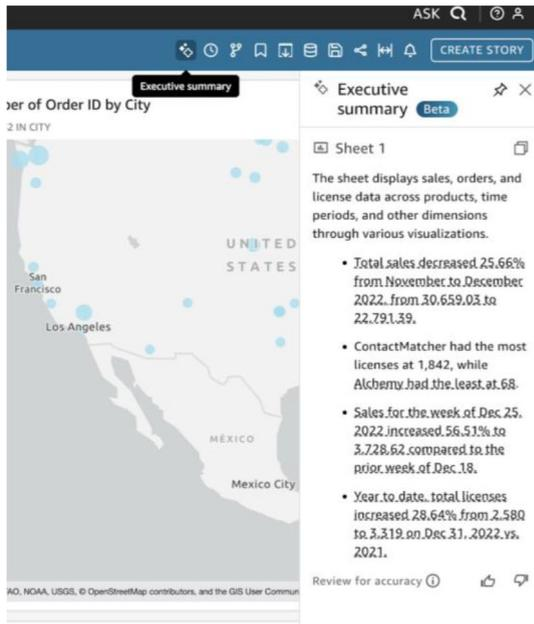

Figure 6-44. Executive Summary feature
- Executive summaries of dashboards:** As shown in Figure 6-44, with a click of a button, instant summaries of key dashboard insights in natural language can be created to explain top movers, outliers, and more.